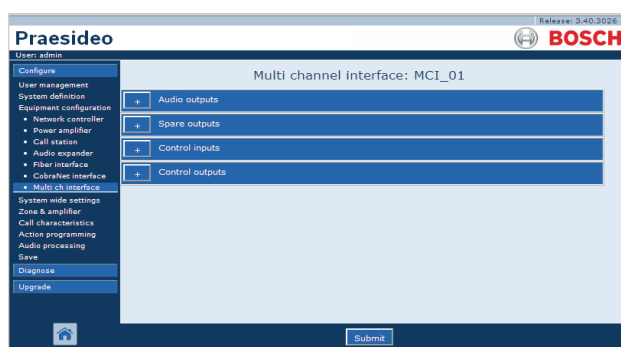

figure 44.22: Configure multi channel interface, step 2
- 2 Click the name of the multi channel interface to be configured. A screen similar to the one in figure 44.22 appears in the main frame of the web interface